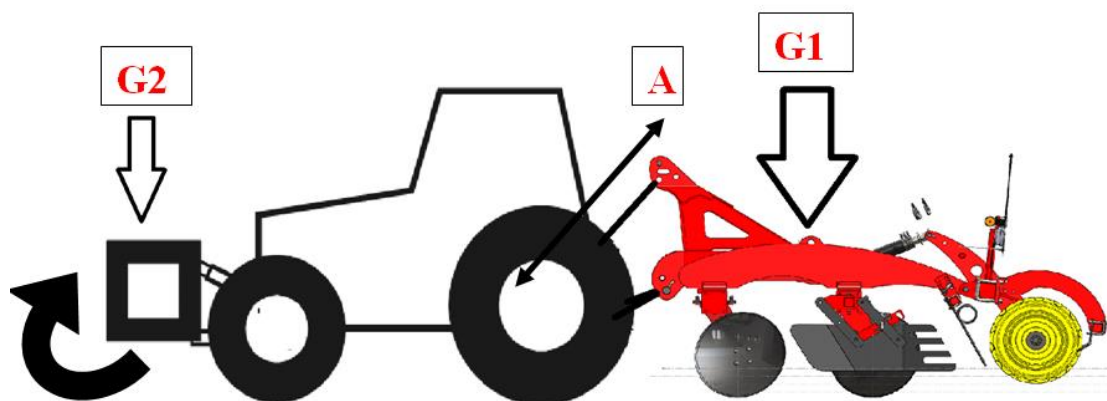

FIGURE 3
Tractor upper connecting rods direction must be towards about tractor transmission, machinery upper connecting alternative holes must be used if (A) direction is not suitable. **FIGURE 3**